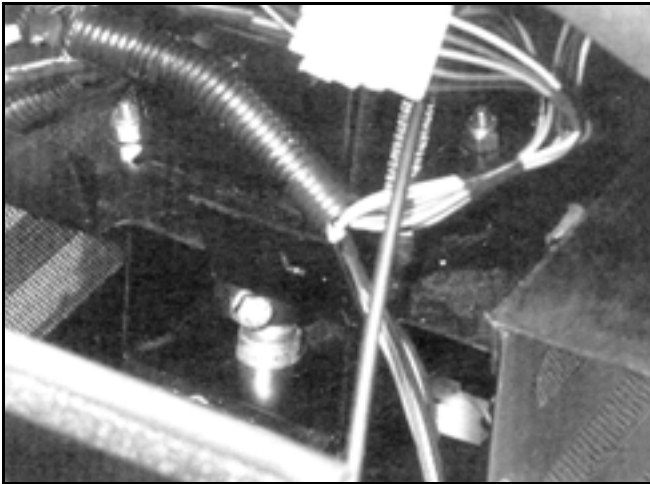

Figure 28
6. Rotate the steering gear shaft until the bottom bolt of the universal joint faces the front of the tractor. Remove the bolt (Figure 28).